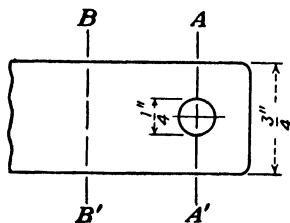
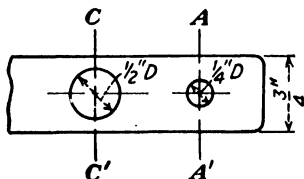

Fig. 225.
Fig. 226.
1. Using Table 12, find the tensile strength of the fitting in Fig. 225, (a) at section BB' , (b) at section AA' . The material is $\frac{1}{8}$ -in. low-carbon steel.
2. Suppose that a $\frac{1}{2}$ -in. hole were drilled by a careless mechanic in the fitting in Fig. 225. What is the strength of this fitting in Fig. 226 now?